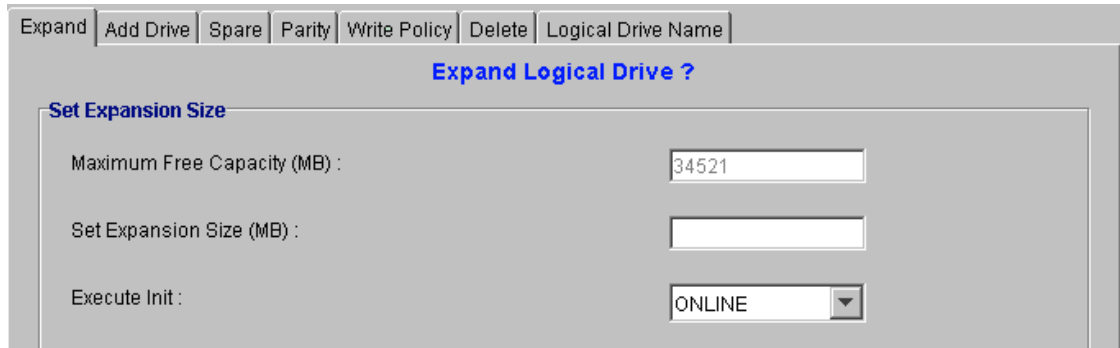

Figure 8-17: Expand Logical Drive Window
Step 4. Once the “Expand” tab has been selected the “Expand Logical Drive” window shown in *Figure 8-17* will appear in the content panel.
- Step 1.** Once the LD expansion parameters have been selected, click the “OK” button at the bottom of the Expand Logical Drive window shown in *Figure 8-17* (note that the “OK” button is not shown in this image and can be found at the bottom of the screen).